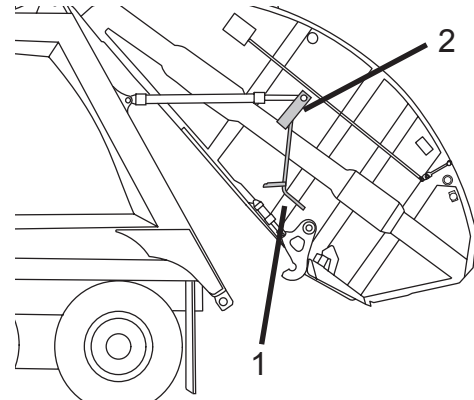

Figure 49
6. Pull the prop lever (Figure 49, Item 1) down to remove the prop (Figure 49, Item 2) from around the cylinder rod.